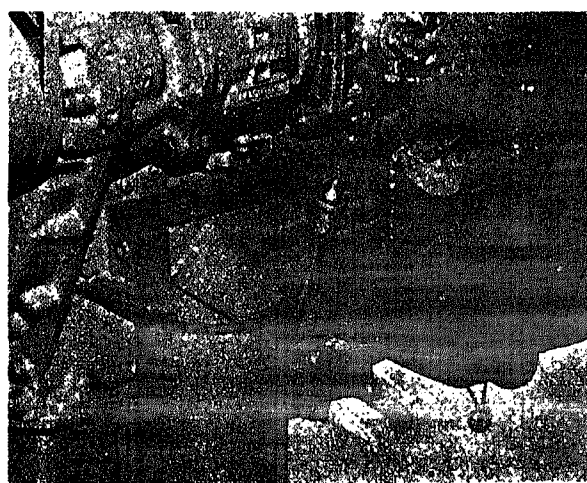

Fig. 2-1. Lubricating oil priming points
2. Remove  $\frac{1}{4}$  in. pipe plug from the oil gallery (1, Fig. 2-1) on engines from top (2) lubricating oil filter head for paper-element filters.